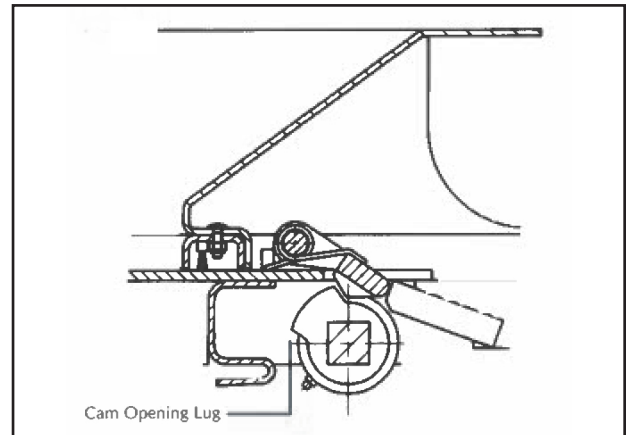

Figure 2
4. While feeding the shaft through the bushing, install one opening cam on the shaft, with the cam opening lug pointing up and forward towards the outlet discharge opening, as shown in Figure 2.